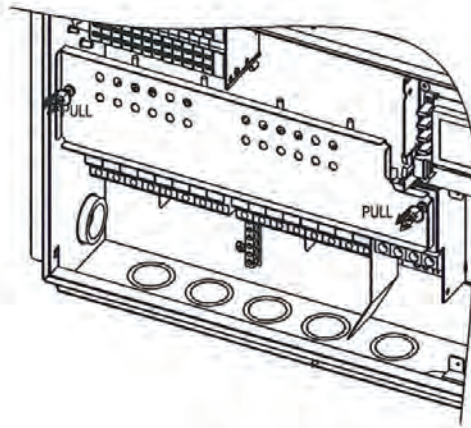

Figure A-2
1. Remove the protection cover . (see Figure A-2)